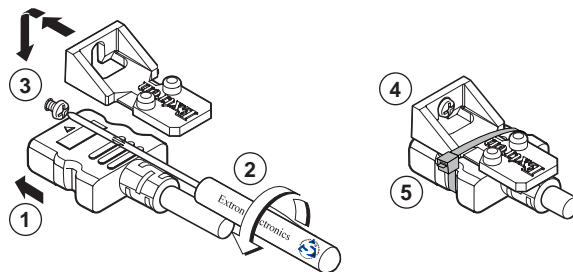

Figure 9. Installing the LockIt Lacing Bracket
1. Plug the HDMI cable into the panel connection (see ① in figure 9).